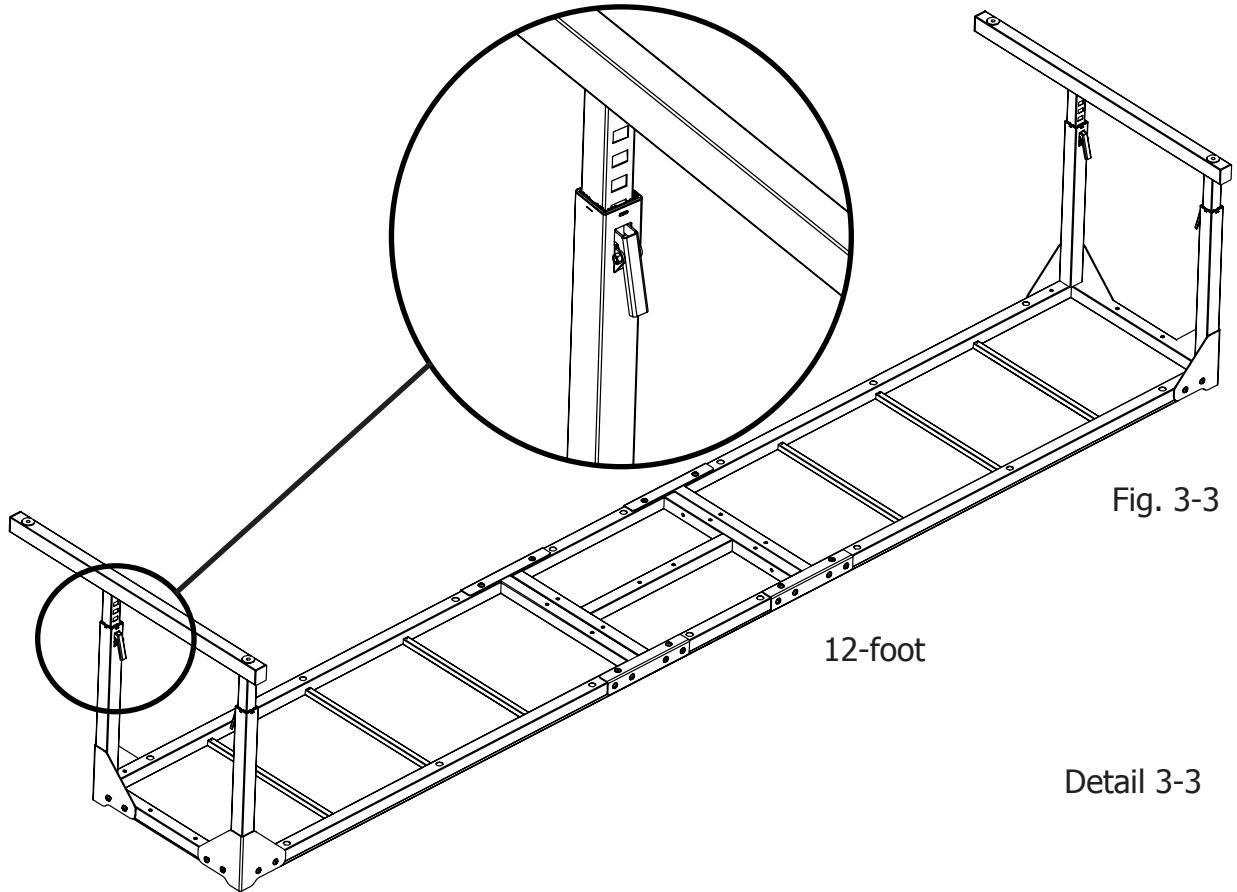
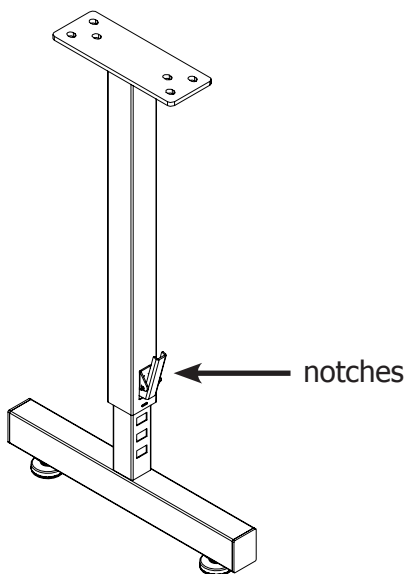

Fig. 3-3
Fig. 3-4
3-3: Slide one (1) lower corner leg onto the two (2) upper corner legs on each end of the frame as shown in **Fig. 3-2** on the previous page and **Fig. 3-3**. Choose the preferred height of the frame based on the table in **Fig. 3-4**.